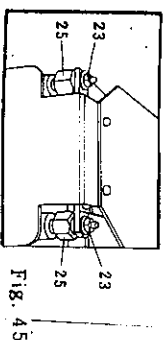

Fig. 45
Collate the measured weights with E-2-6 (CORNERLOAD ADJUSTMENT LIST) and turn (25) CORNERLOAD NUTS on both sides, as shown in Fig. 45, to adjust the cornerload.